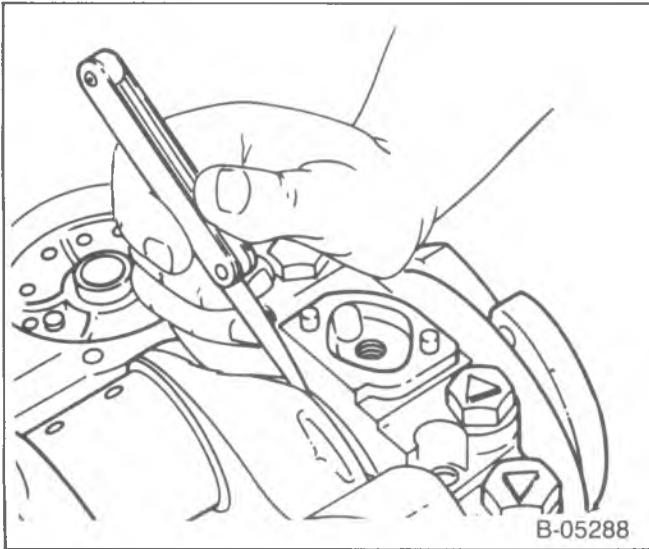

Figure 30—Measuring Crankshaft End Play
Measure (Figure 30)
2. With the crankshaft forced forward, measure at the front end of the number three main bearing with a feeler gage (figure 30). The proper clearance is 0.054 to 0.084 mm.